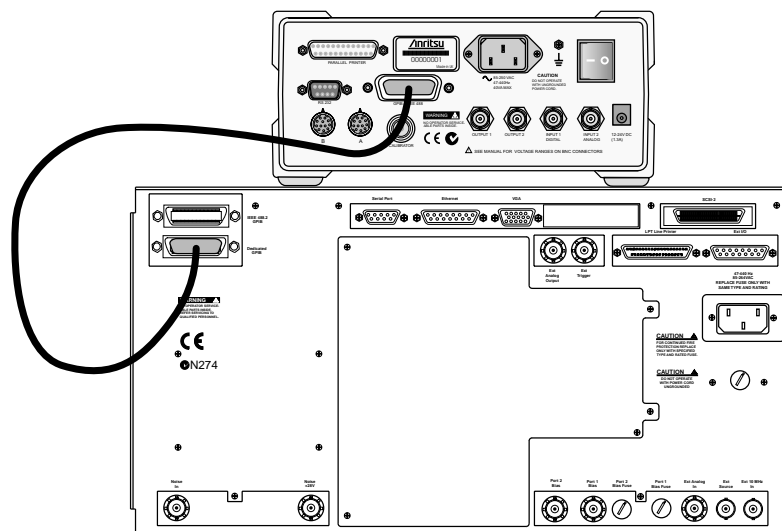

Figure 4-1. ML2430A Series Power Meter GPIB Connection to the MS4623C Vector Network Measurement System
Step 1. Connect a GPIB cable between the power meter GPIB connector and the MS4623C dedicated GPIB connector, as shown in Figure 4-1.